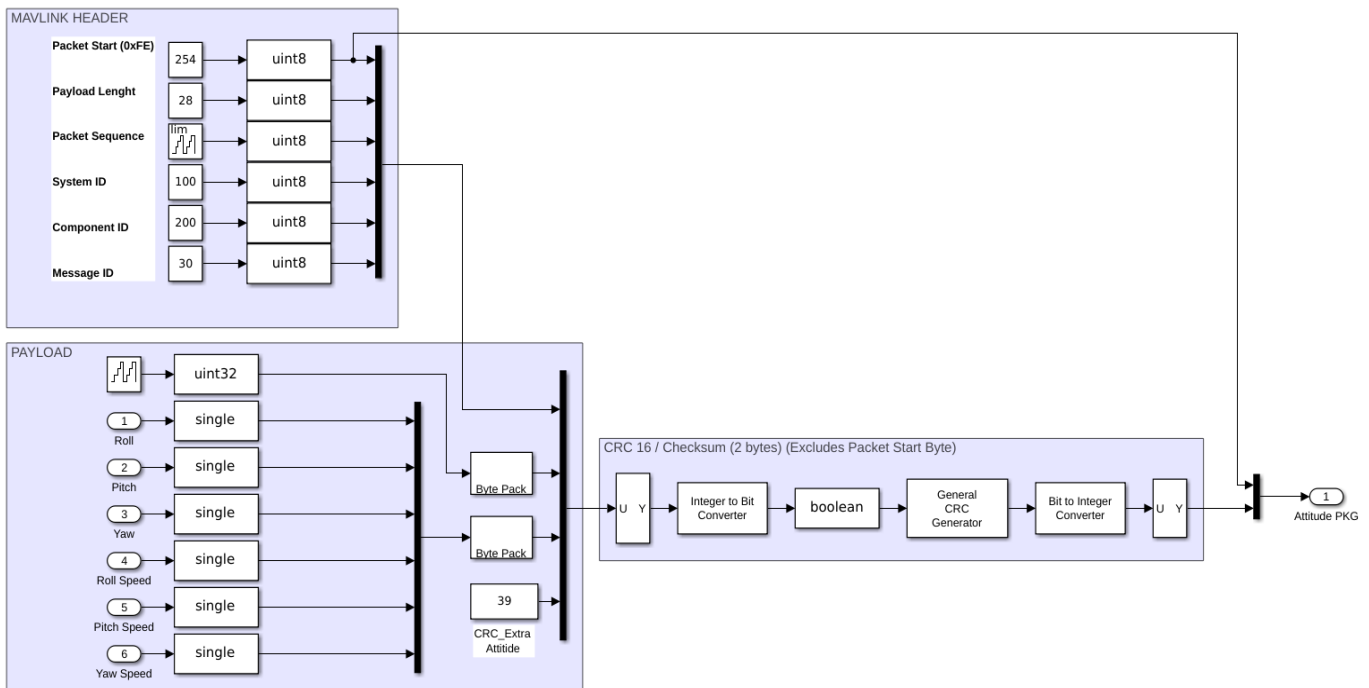

Figure 3: Simulink Mavlink encoding structure for a specific message
3. The Header and the payload Are muxed together making sure all of the elements enter as uint8 format, it means, in bytes. For this task, the block **byte Pack** is the most convenient since it converts every vector on its input to uint8 elements. Refer to the figure 3
4. The **CRC Extra** is added after, at the end of the Mux (The mux vector of last point) This is constant value uint8 with the value of the **CRC\_EXTRA** related to the message, which in this case is 39. This value is used by the CRC to generate the correct two checksum bytes. Refer to the figure 3.